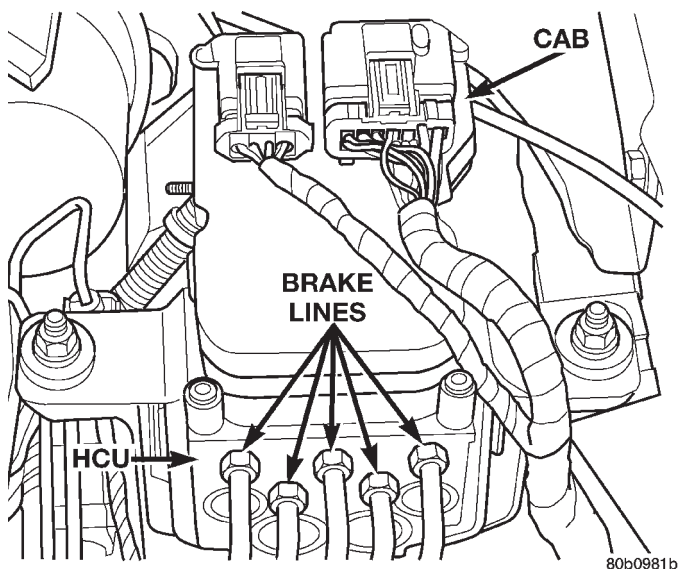

Fig. 6 HCU Brake Lines
- (1) Disconnect battery negative cable.
- (2) Remove the brake lines from HCU (Fig. 6).